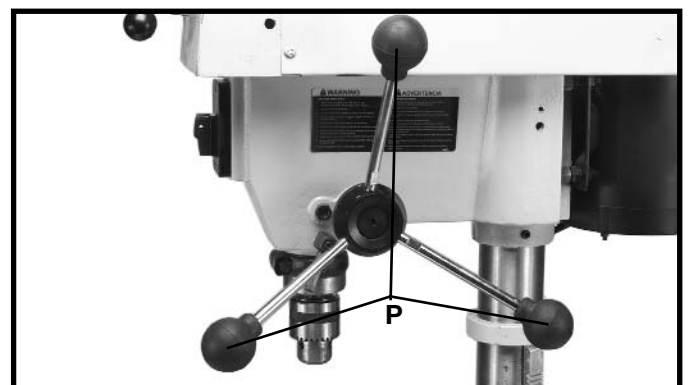

Fig. 14
9. Thread the three pinion shaft handles (P) Fig. 14, into the three tapped holes located in the pinion shaft, as shown.